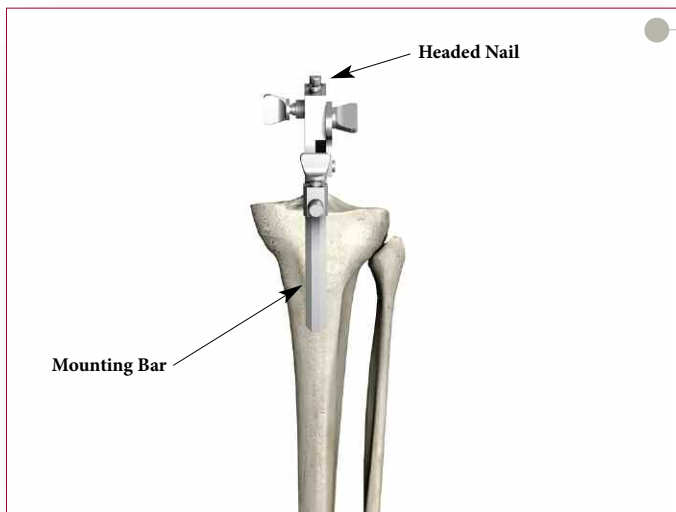

Figure 60
- ▶ With the body of the IM jig resting on the proximal tibia, correct rotational alignment is achieved by rotating the instrument about the IM rod so that the tibial tubercle appears slightly lateral to the vertical mounting bar. The headed nail is impacted, fixing rotational alignment (**Figure 60**).